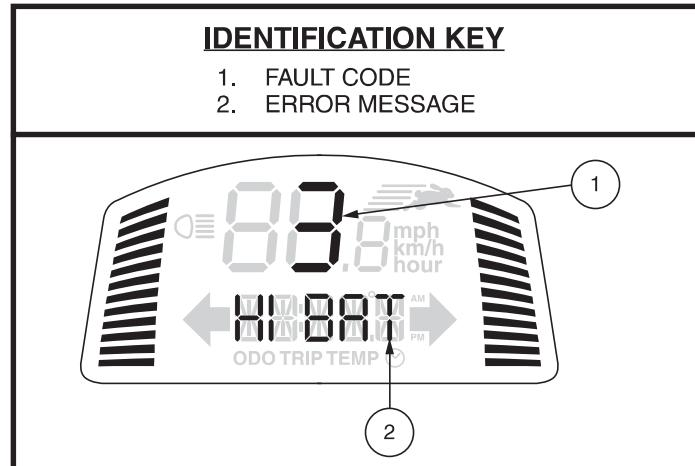

Figure 24. Fault Code Display
1. A diagnostic fault code and error message will be displayed on your LCD screen (see figure 24), **OR**